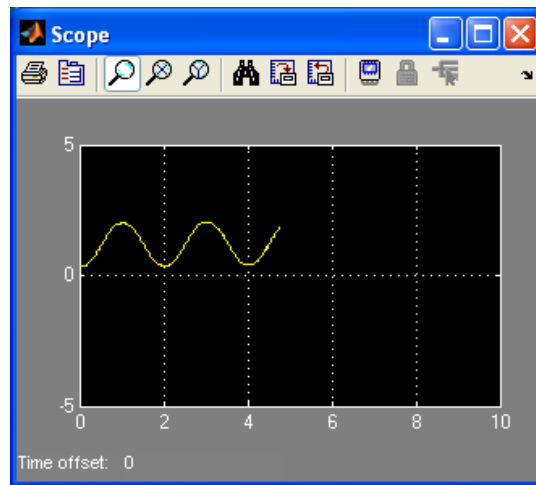

Figure A.7: Reading raw voltage from the SRV02 potentiometer
9. Click on QUARC | Start to execute the code. As the SRV02 rotates back-and-forth, the Scope should display the potentiometer readings similar to Figure A.7. Notice that the readings shown are the voltage output of the potentiometer and not an angular measurement in degrees or radians.